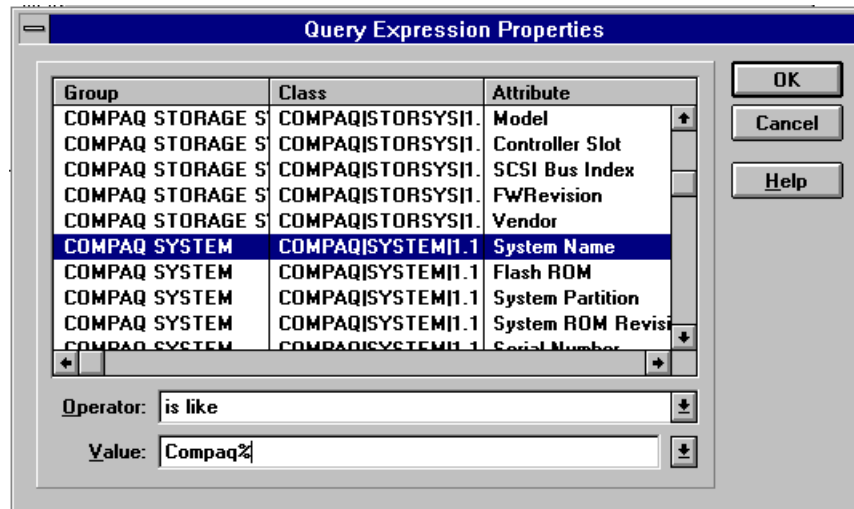

Figure 6-2. Finding the System Name attribute
6. Scroll through the list until you find the *System Name* attribute. An example of the Query Expression Properties window is shown in Figure 6-2.